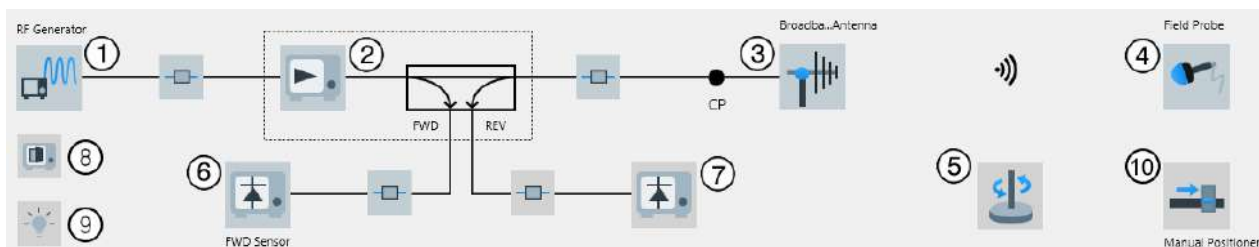

Figure 4-154: EMS hardware setup diagram for an Anechoic Chamber in Calibration View
- The "Calibration View" (see Figure 4-154)